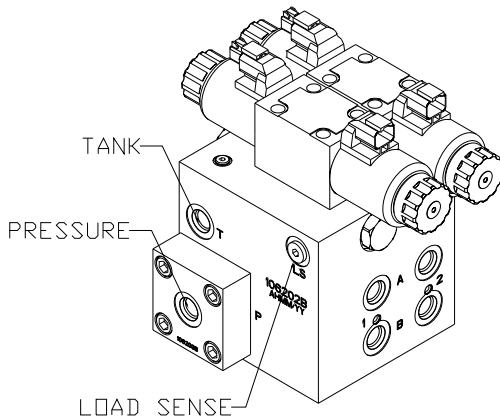

Figure 20: NORAC Valve Block
1. On a clean surface remove all plastic plugs from the NORAC hydraulic Valve (**V01**) (**Figure 20**).